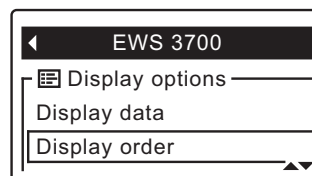

FIG. 68
3. Press the DOWN (▼) button to scroll through the menu options until **Display order** is highlighted in a box (See Figure 68).
9. To move another item, return to Step 5. When finished moving items, press the LEFT (◀) button. The display will go back to the device menu (Figure 68).